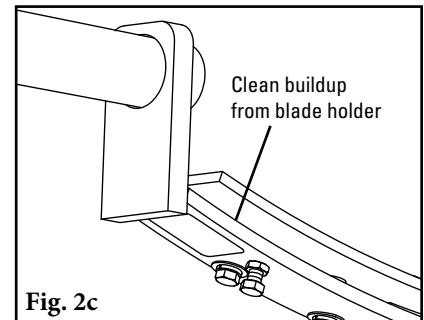

Fig. 2c
- Remove the blade from the holder and clean material buildup from holder with a wire brush (Fig. 2c).